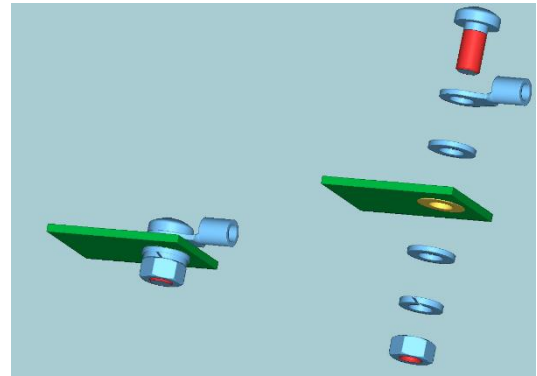

Figure 11: Power cables connector assembly.
2. Install the plastic spacer studs in each corner of the EVB (see Figure 11)
- a. Ring terminals to the PCB using the included bolt + washer + nut (according to Figure 11
7. Install the plexiglass cover on the spacer studs with the nylon M3 screws, as displayed in Figure 11.